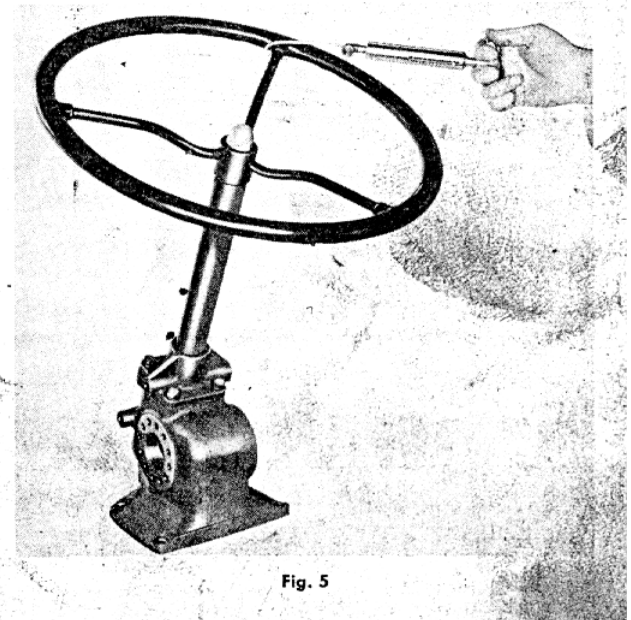

Fig. 5
- b. With a spring scale as shown in Figure 5, check the amount of pull required to rotate the steering wheel through center or straight forward position. (Should be $1\frac{1}{2}$ lbs.)